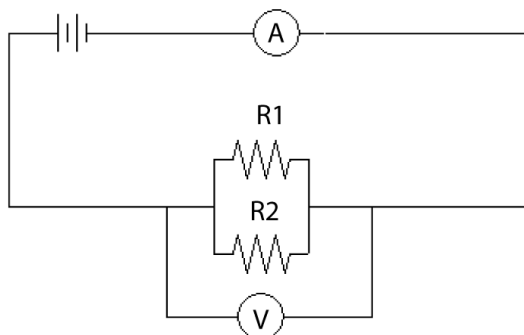

Figure 2.14: Schematic for 2 resistors connected in parallel.
4. **Construct the circuit shown in Fig. 2.14.** Use two different resistors having resistances of approximately  $1\text{ k}\Omega$  and  $2\text{ k}\Omega$ . Set the power supply voltage to the middle of its range and record your measured voltage and current in Data Table 4. For two resistors wired in parallel, the uncertainty of the equivalent resistance is given by Eq. 2.6.